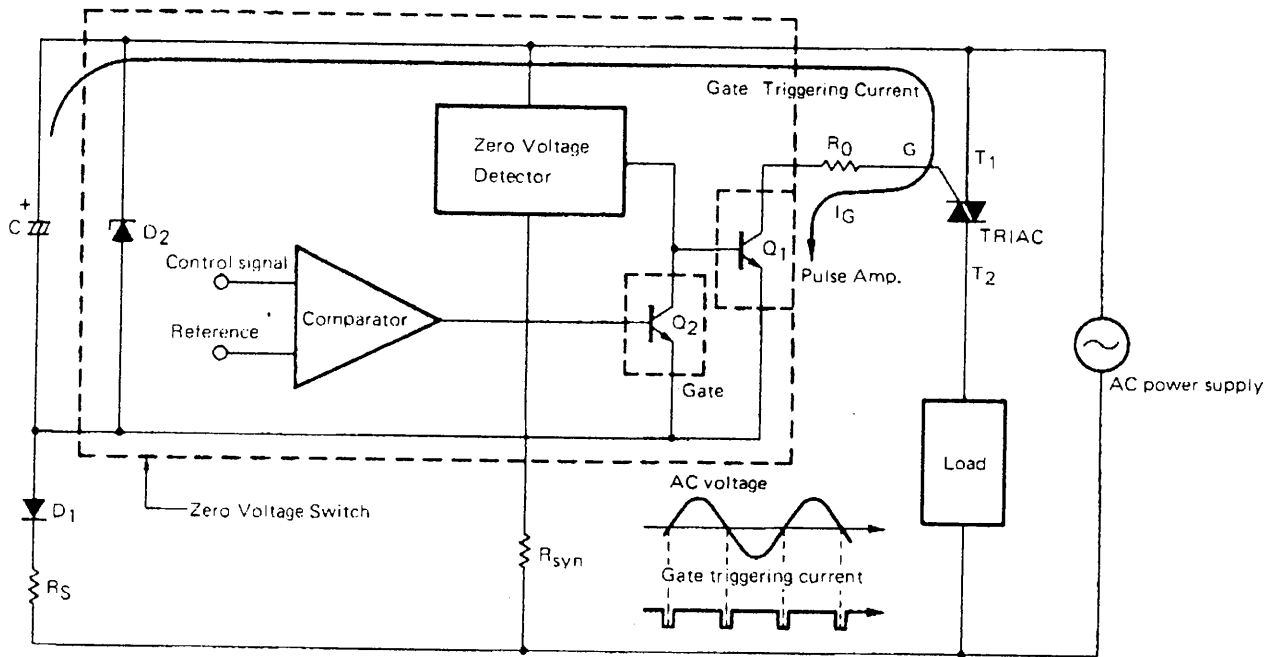
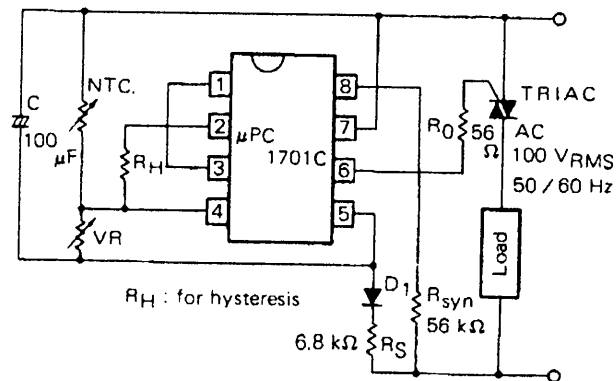

Fig. 6 Zero Voltage ON-OFF Control Circuit
Fig. 7 ON-OFF Temperature Control Circuit
Basic constitution of zero voltage control circuit using ZVS " $\mu\text{PC1701C}$ " is shown in Fig. 6.
In Fig. 6, the power supply capacitor C is charged up to the zener voltage (V_Z) of D₂ through diode D₁ and R_s, typically 8.5~9.0 V.
The zero voltage detector (in Fig. 6) is in the biased state wherein the AC voltage across the R_{syn} is applied.
Regarding Fig. 7 (one of the application circuit), Zero point is detected by AC voltage applied ZVS terminals between 8 and 7, and equivalent transistor which is shown in Fig. 6, Q₁ is included in terminal between 6 and 5.
When output of comparator is low level in Fig. 6, Q₂ is off and triggering pulse flows through R₀ and Q₁ by output signal of zero voltage detector.
In Fig. 7 the comparator in $\mu\text{PC1701C}$ compares the reference voltage of the inverting input terminal 3 with the voltage of the noninverting input terminal 4 which is divided by variable resistance V_R and temperature sensor NTC (negative temperature coefficient thermistor).
4) R_{syn} , R_s , R_0 and C design in Fig. 6, 7
The circuit shown in Fig. 7 is using a included reference voltage in ZVS (connected terminal 1 and 3).